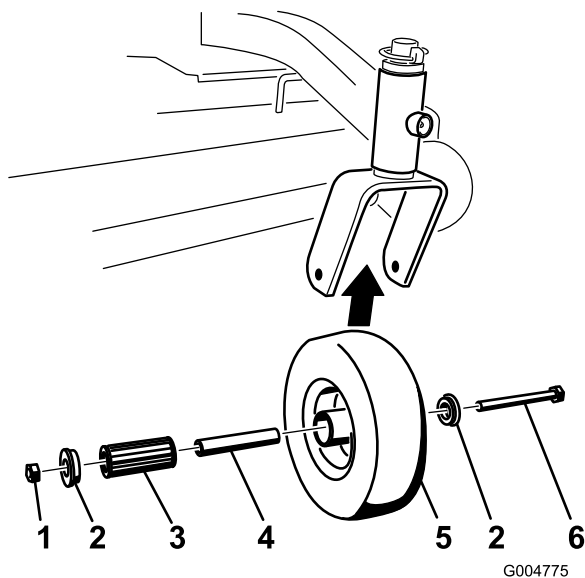

Figure 45
1. Remove the locknut and wheel bolt holding the caster wheel to the caster fork (Figure 45).
2. Remove one bushing, then pull the spanner bushing and roller bearing out of the wheel hub (Figure 45).
3. Remove the other bushing from the wheel hub and clean any grease and dirt from the wheel hub (Figure 45).
4. Inspect the roller bearing, bushings, spanner bushing and inside of the wheel hub for wear. Replace any defective or worn parts (Figure 45).
5. To assemble, place one bushing into the wheel hub. Grease the roller bearing and spanner bushing and slide them into the wheel hub. Place the second bushing into the wheel hub (Figure 45).
6. Install the caster wheel into the caster fork and secure with the wheel bolt and locknut. Tighten the locknut until the spanner bushing bottoms against the inside of the caster forks (Figure 45).